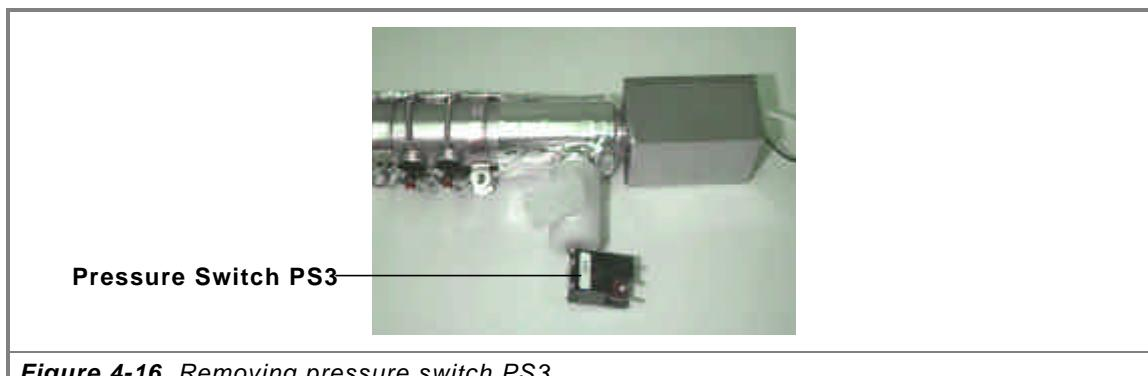

Figure 4-16. Removing pressure switch PS3.
29. Remove pressure switch PS3 and install it on the new nitrogen heater assembly, Figure 4-16.